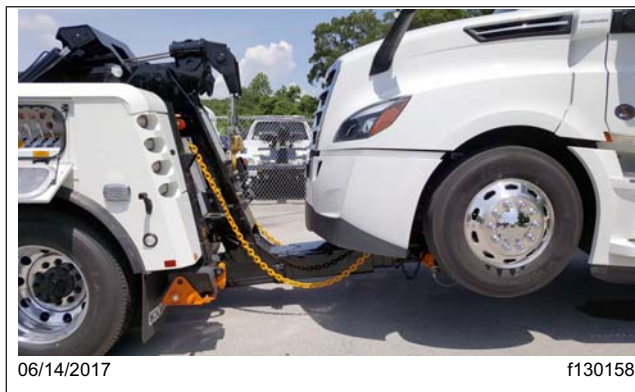

Fig. 26.15, Safety Chains Connected on the Towed Vehicle
16. Connect the safety chains. See **Fig. 26.15**.